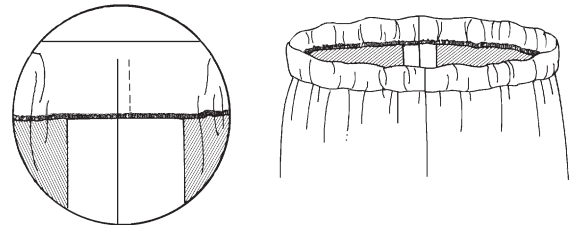

Fig. 12-11
7. Stitch the opening of the casing closed. Backstitch at each end of the opening. (Fig. 12-11)